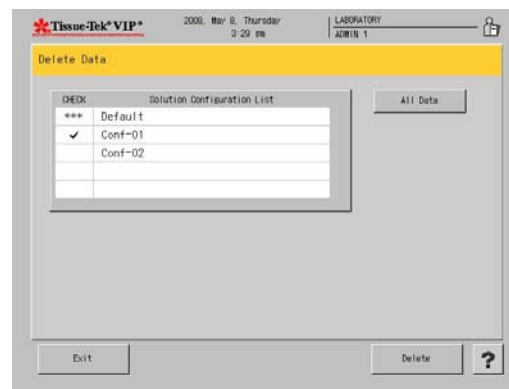

Figure 3-000
- A Deletion Procedure screen displays (Figure 3-000).